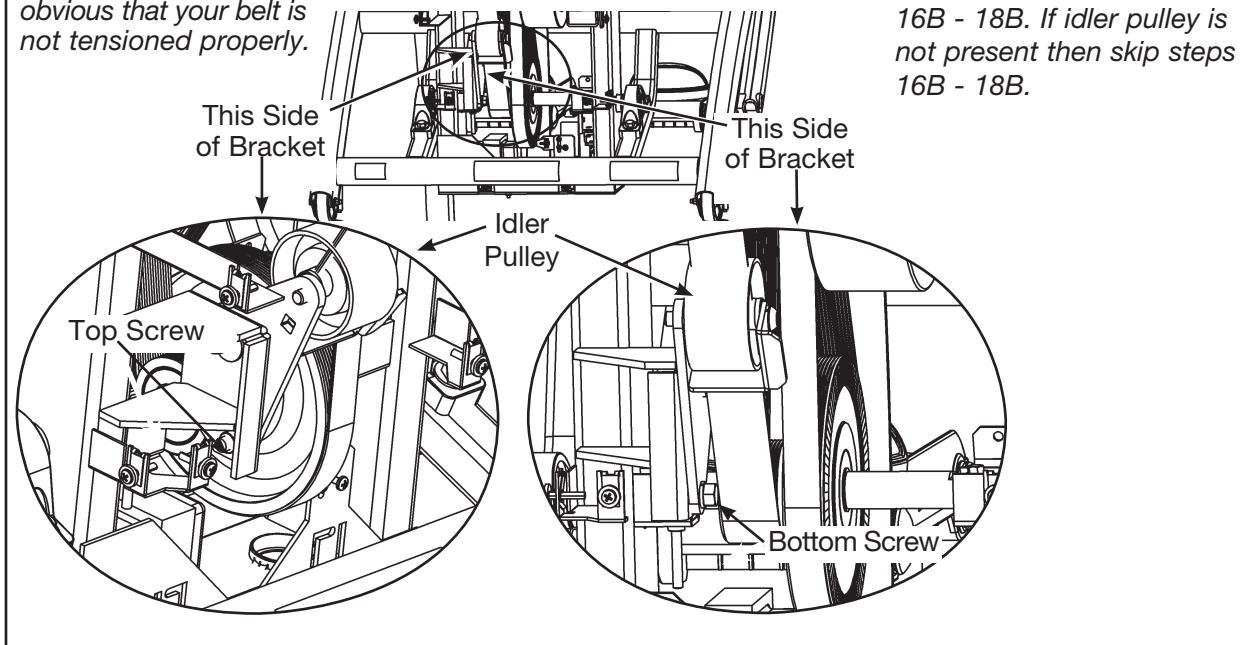

Figure 13
- A. Check to see if idler pulley is present. See Figure 13. **NOTE:** If idler pulley is present then perform steps 16B - 18B. If idler pulley is not present then skip steps 16B - 18B.
- A. Using a 1/2" socket wrench, loosen the bottom screw on the idler pulley. See Figure 13.
- B. Using a 1/2" socket wrench, loosen the top screw on the idler pulley. See Figure 13.
- B. While holding the torque wrench at 75 ft-lbs, use a 1/2" socket wrench to tighten the top screw on the idler pulley. See Figure 13.